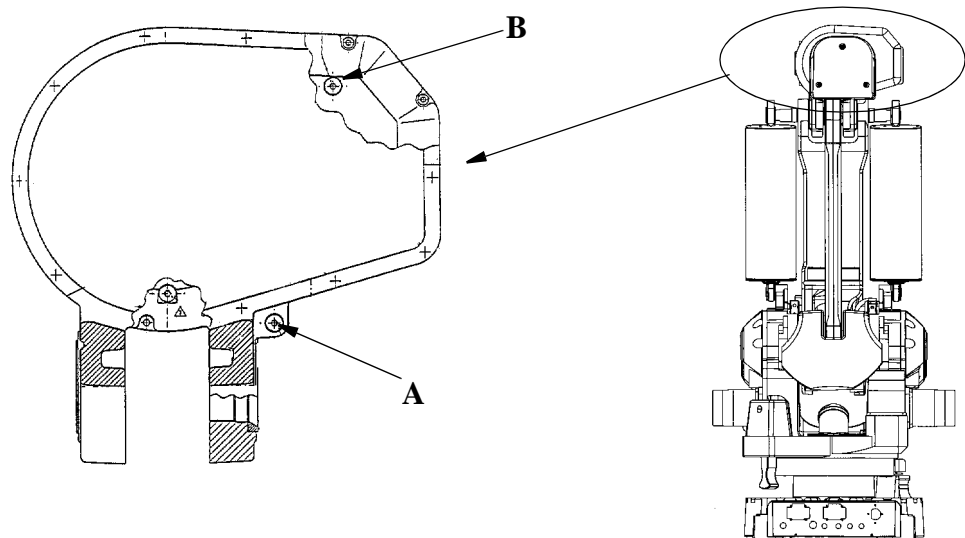

Figure 6 Drain hole axis 4
- Remove the plugs (A) and (B).
- Drain off the old oil through the hole (A). See Figure 6.
- Refit the drain plug (A).
- Fill up with new oil until the oil level reaches the lower edge of the filling hole (B).